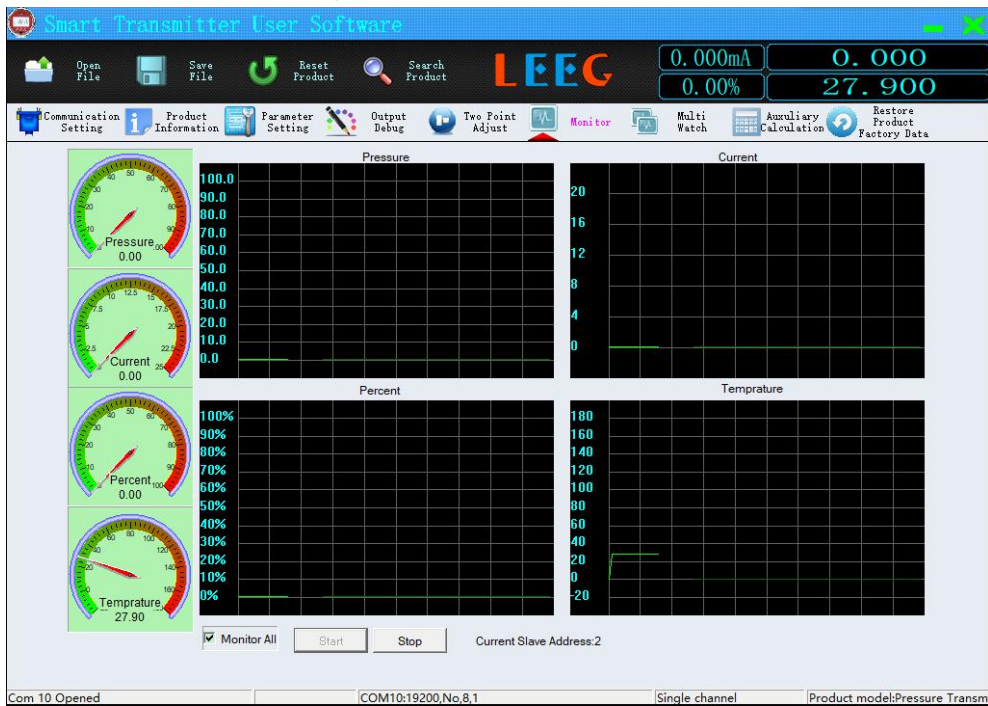

Figure 9
9. Watch, as shown in Figure 9